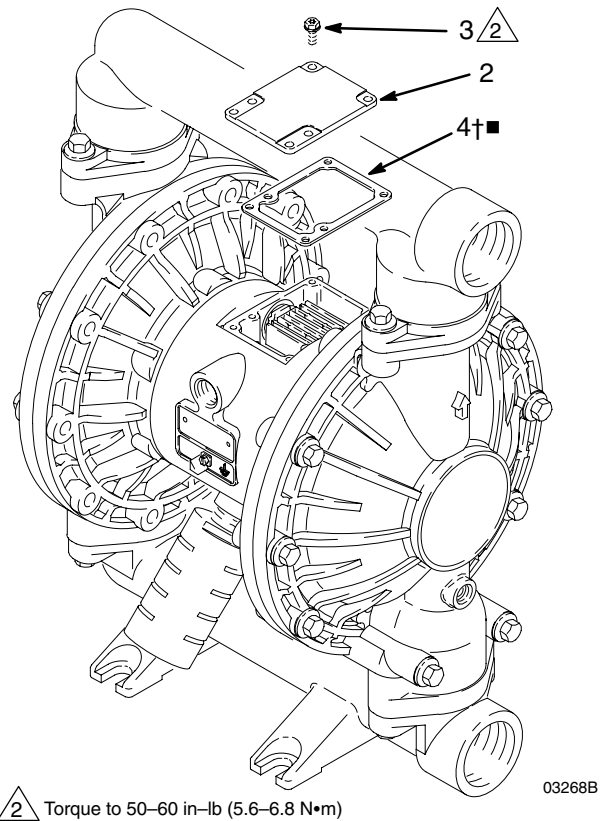

Fig. 6
2. With a Torx (T20) screwdriver or 7 mm socket wrench, remove the six screws (3), air valve cover (2), and gasket (4). See Fig. 6.
10. Align the valve gasket (4†) and cover (2) with the six holes in the center housing (1). Secure with six screws (3), using a Torx (T20) screwdriver or 7 mm socket wrench. Torque to 50–60 in-lb (5.6–6.8 N•m). See Fig. 6.